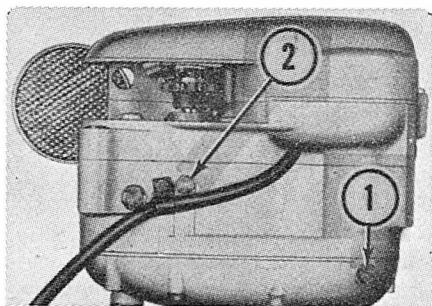

Fig. SA1-7—On 4-speed 100cc models, plug (1) should be removed to check oil level.
Oil capacity for gear box on 4 speed 100cc models is 450cc. To check the oil level, remove plug (1—Fig. SA1-7). Oil should be maintained just above stand pipe on plug (1). If oil does not begin to drip from plug (1) add SAE 80 oil at plug at top of crankcase.